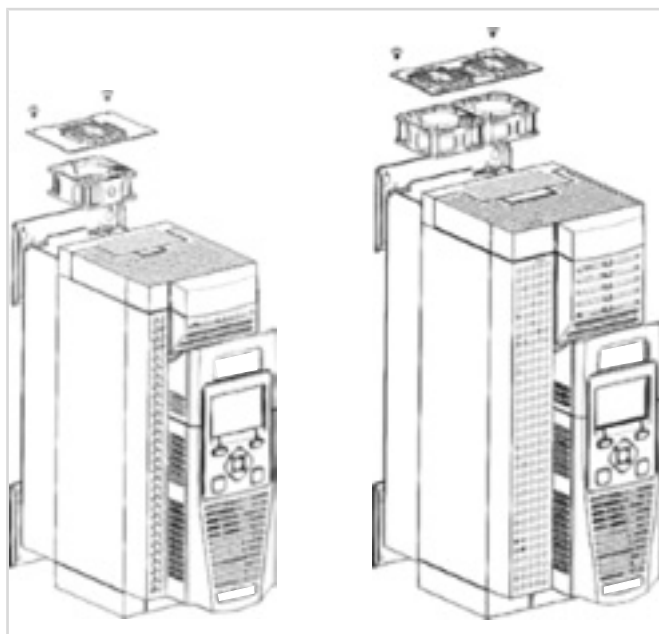

Fig. 23: Replacing the fans in the heat sink
- Take out the fan or fans, pull the plugs of the wiring and insert the new fan or fans. Make sure that the correct fan side points to the top. (see figure 23, page 69).